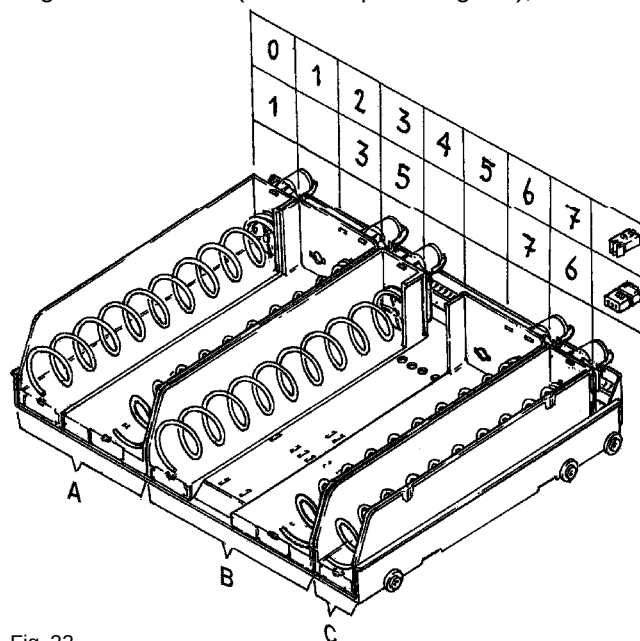

Fig. 22
- connect the three-pole connectors to the motors, keeping in mind that connector pairs are fixed: the connectors marked with number 1 and 3 can be connected to the left-hand holder and the connectors marked with number 5 and 7 can be connected to the right-hand holder (see example in Fig. 22);
If a single holder is to be connected, as in the example of Fig. 22, two-pole connector N. 6 must be used: